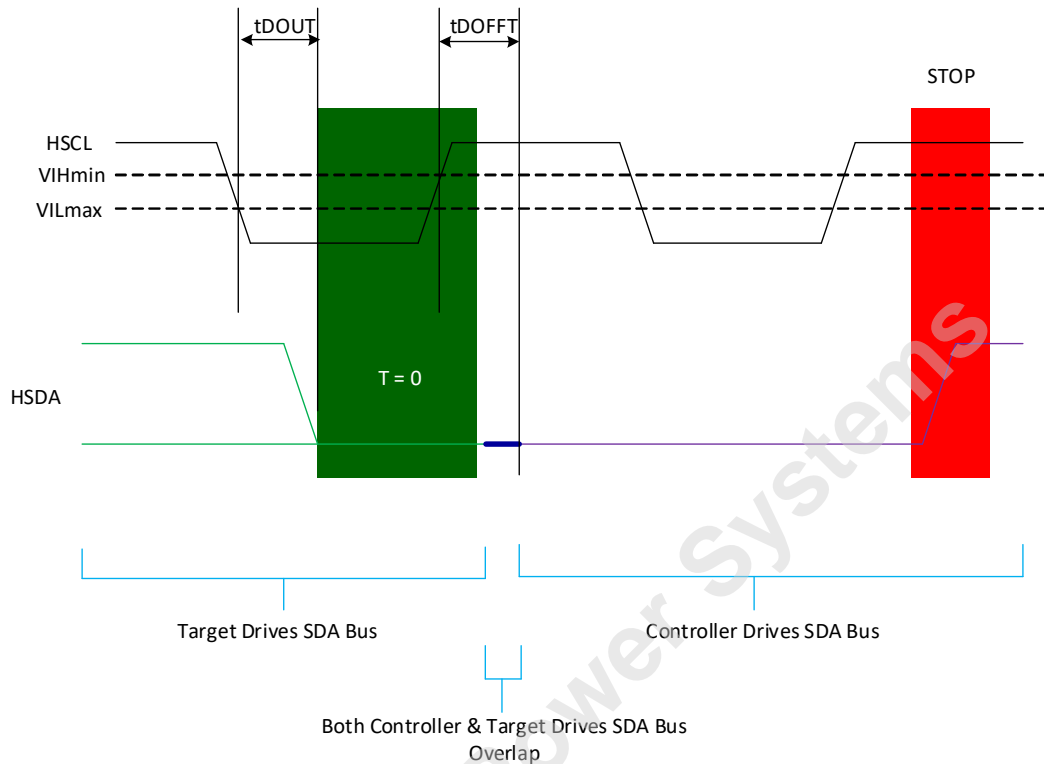

Figure 26 — T=0; Target Ends Read; Controller Generates STOP
NOTE 7 See Figure 26 to see how target device ends the operation followed by Host STOP operation.
- NOTE 7 See Figure 26 to see how Host ends target device operation followed by Host STOP operation.
- NOTE 2 See Figure 26 to see how target device ends the operation followed by STOP operation.
- NOTE 4 See Figure 26 to see how target device ends the operation followed by STOP operation.
NOTE 2 See Figure 26 to see how target device ends the operation followed by Host STOP operation.